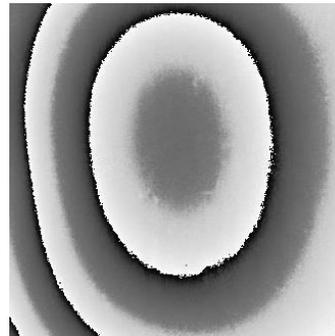

Figure 4.2 Banded Phase Image
- A banding pattern of grayscale values appears in the phase image. (**Figure 4.2**)